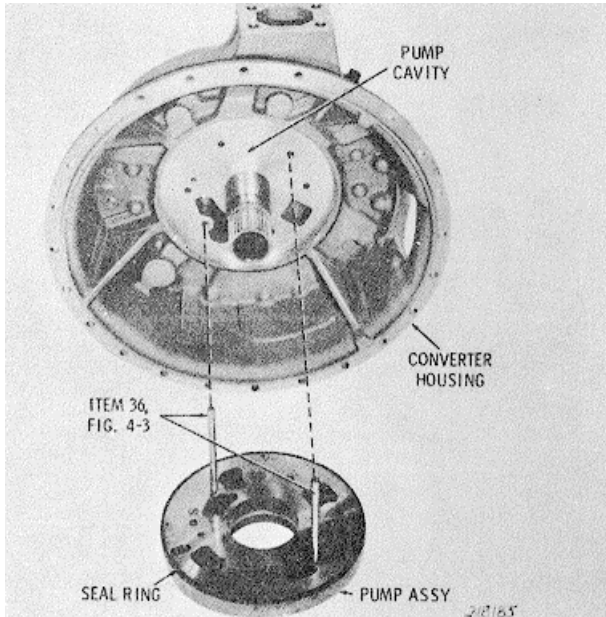

Fig. 6-21 Installation position of oil pump assembly (housing with 2-bolt cover)
(21) Install the sealring around the cover outer circumference (fig. 6-21). Install two 3/8-16 guide screws into the pump at the locations shown.
(22) Lubricate the seal ring (if used) and oil pump cavity in the housing (fig. 6-21).